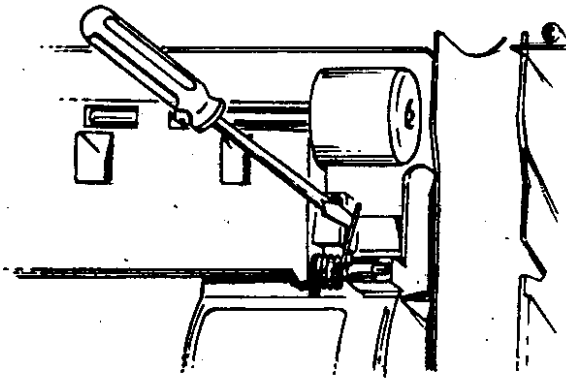

Fig. 4
1. Pry spring leg up and out of track in wheel support (Fig. 4)